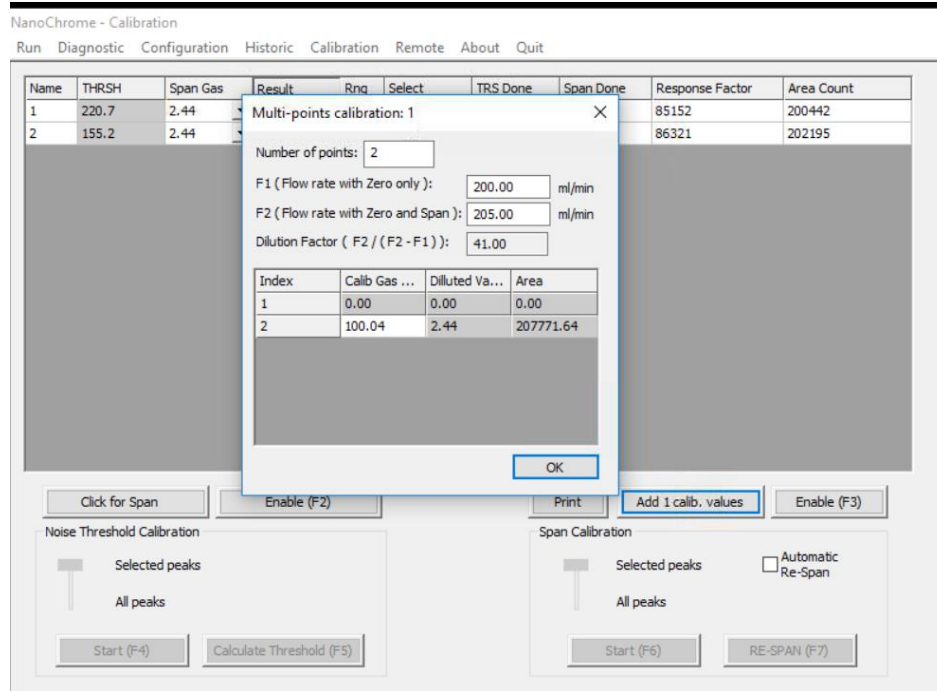

Figure 40 : Calibration-Span menu
4. Click on the **Add “*peak name*” calib values** button and a pop-up menu will appear (see **Figure 40**).